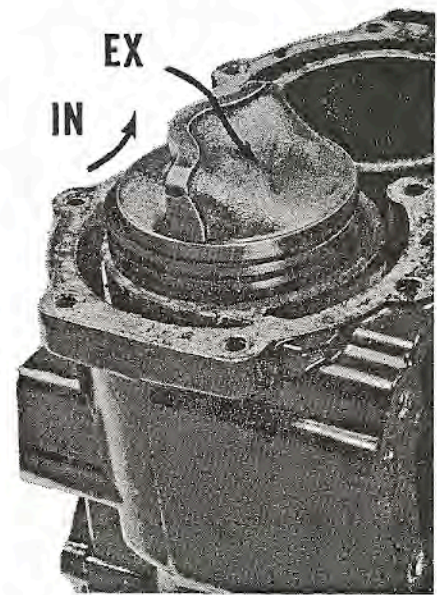

Fig. WB39—Piston correctly installed in cylinder, showing relation of piston baffle to inlet and exhaust ports.
The crankshaft upper main bearing is a part of bearing cap (3—Fig. WB39). The center main bearing consists of 34 loose needle rollers (18), which are contained in a split outer race (19). The bearing race is separated by fracturing, and is held together by the retaining ring (20). When assembling, work the two halves of bearing